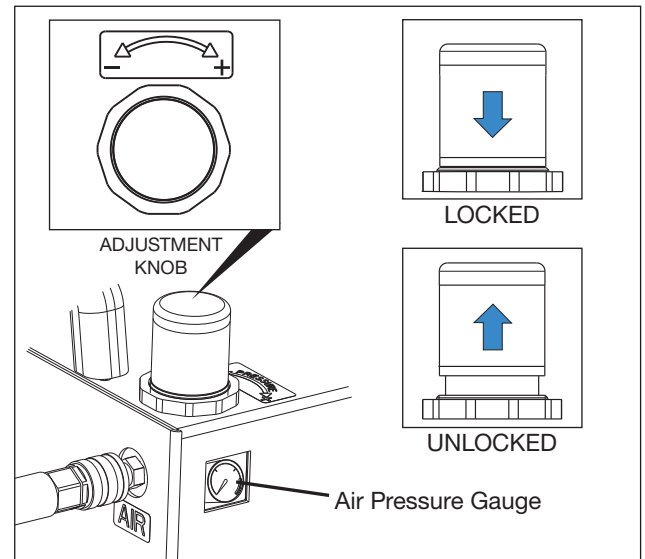

Figure 10 - Air Pressure Adjustment Knob and Pressure Gauge
3. Pull up the air pressure adjustment knob. See Figure 10.
2. Disconnect the air supply hose from the pump air inlet connection. Be certain that the pump air pressure gauge indicates zero (0) psi/bar. See Figure 10.